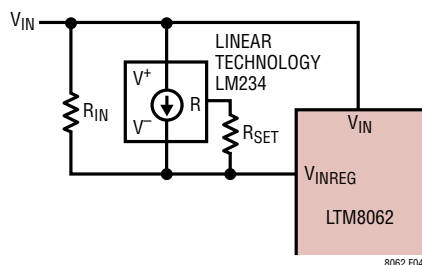

Figure 4. MPPT Temperature Compensation Network
In the circuit shown in Figure 4,
As the temperature coefficient for V_{MP} is similar to that of V_{OC} , the specified temperature coefficient for V_{OC} (TC) of $-78\text{mV}/^{\circ}\text{C}$ and the specified peak power voltage ($V_{MP}(25^{\circ}\text{C})$) of 17.6V can be inserted into the equations to calculate the appropriate resistor values for the temperature compensation network in Figure 4. Initially, determine the R_{SET} value using the following equation: